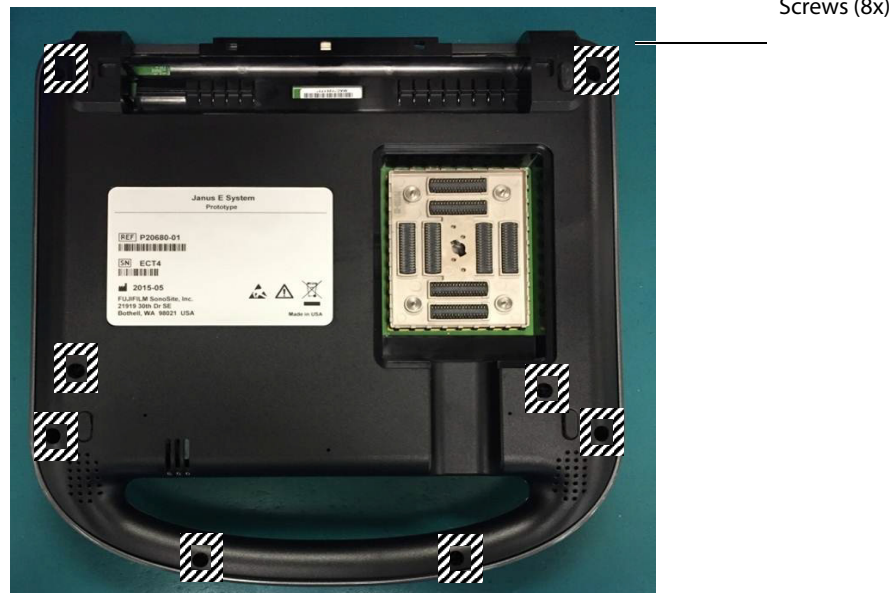

Figure 6.2 System Bottom
- 3 Remove the eight screws from the Bottom Enclosure of the system with a #2 Phillips screw driver per Figure 6.2.
- 9 Install the bottom enclosure and the eight screws on the base of the system per Figure 6.2. Torque the screws to 5.5-inch pounds.
- 2 Remove the 8 screws from the Bottom Enclosure of the system using a #2 Phillips screwdriver per Figure 6.2.
- 8 Install the eight screws on the Bottom Enclosure of the system per Figure 6.2. Torque the screws to 5.5-inch pounds.